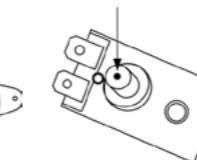

Fig. 15
- for FSM5/FSM3 series vertical-type water heaters: unscrew retaining nut of the thermal switch, fastened on the flange of the heating element, turn the thermal switch and press the button, located in the center of the thermal switch, until it clicks; Fig. 15;